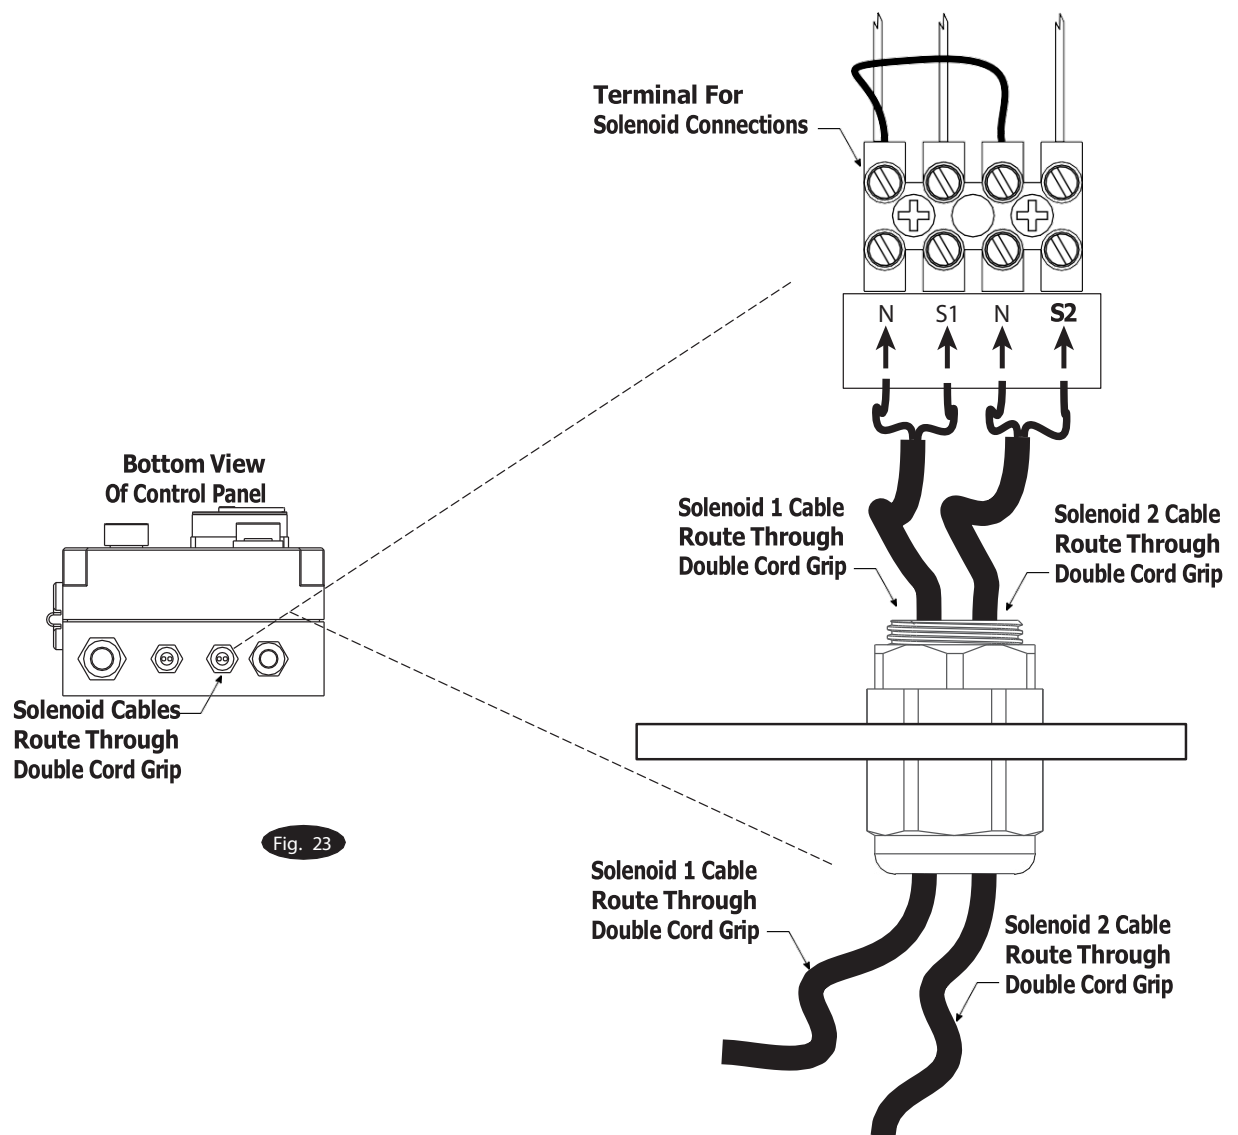

Fig. 23
- A. Connect cables to terminal inside, Fig. 23.